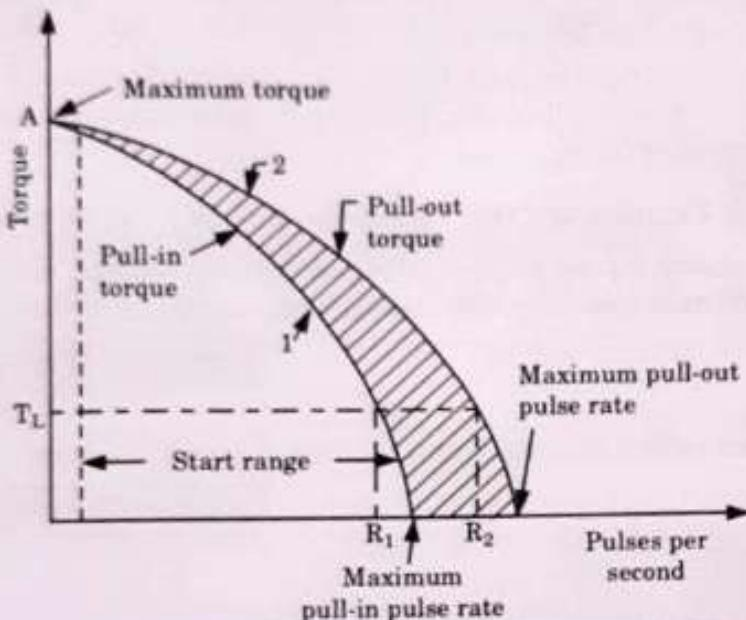

Fig. 2.13.1. Torque-pulse rate characteristics of a stepping motor.
2. With increase in stepping rate, the rotor gets less time in driving the load from one position to the next; the driving torque is therefore decreased. This is shown in Fig. 2.13.1.